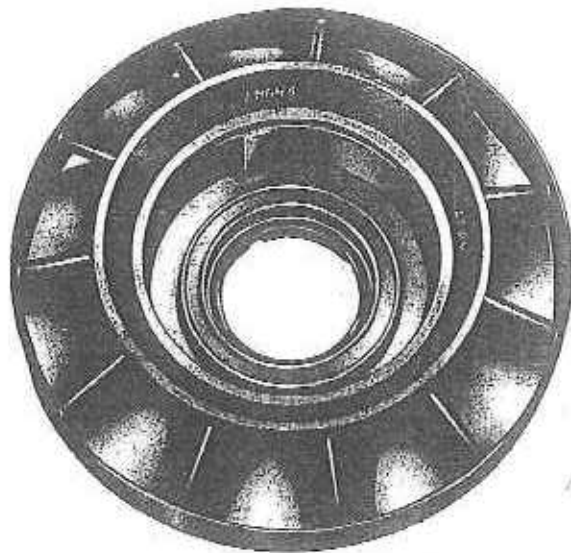

FIG 8
3. (Fig. 8) Replace one thrust washer with the slotted side against the circlip.